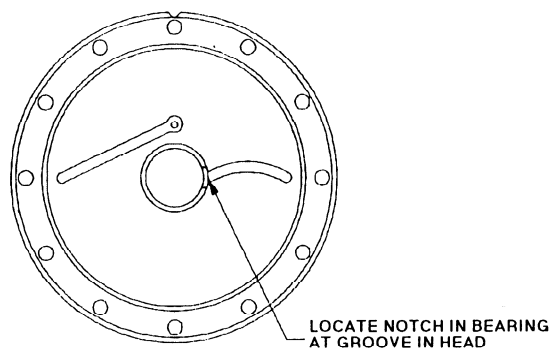

Figure 5 - Bearing Location
- b. Coat the bearing with grease and place it in the bearing bore on the inside face of the head, with the notched end outward. Align the notch in the bearing with the groove in the head (see Figure 5).